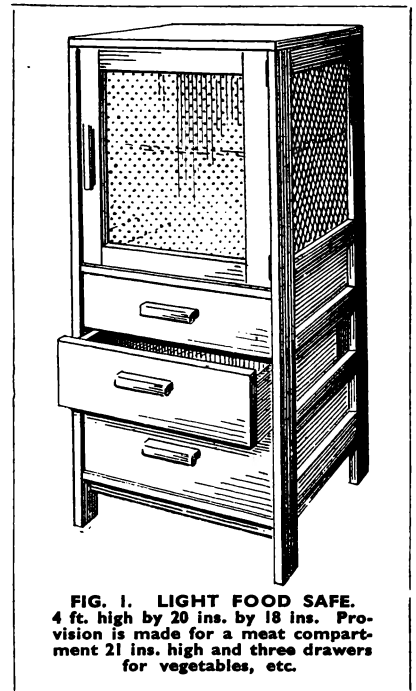

FIG. 1. LIGHT FOOD SAFE.
**FIG. 1. IDEAL IN THE LIVING ROOM.** A choice of two designs is given. That shown above is type A. No boring is necessary as the shaft is made of two grooved pieces.